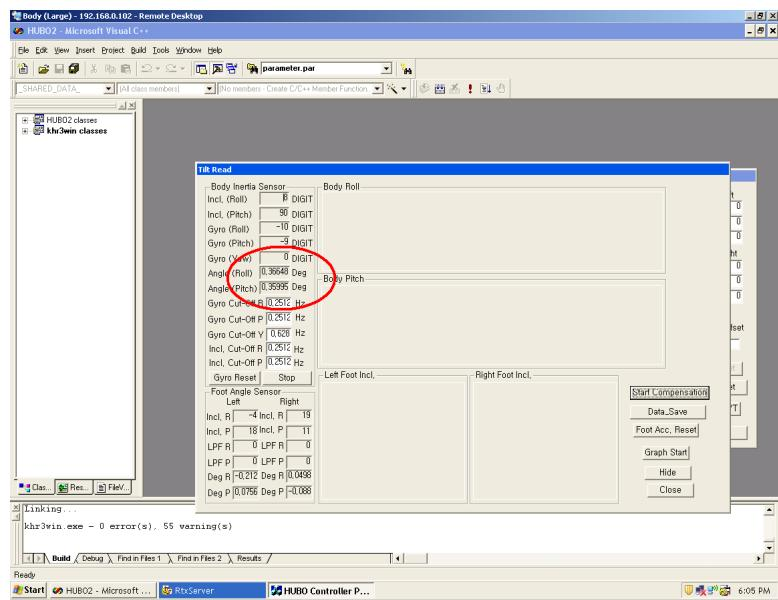

Figure 23: *Tilt Show* dialog box (Post Pressing *Start Compensation* Button)
This will help the system compensate for a slight roll and pitch errors. After pressing *Start Compensation* the Angle (Pitch) and Angle (Roll) will start to change value, see Figure 23. Let this run for about 20 seconds.
5.40 Click *Hide* in the *Tilt Read* dialog box, Figure 23